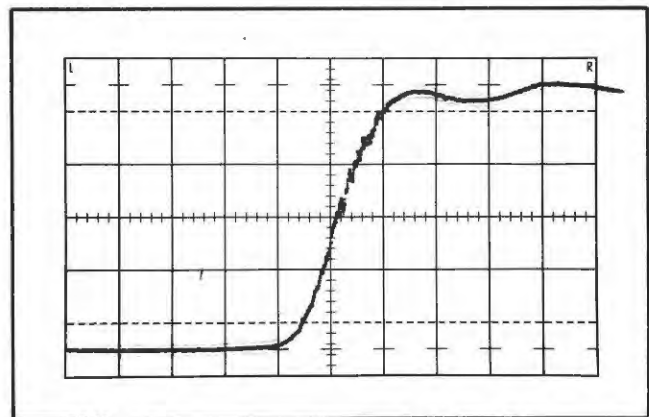

Fig. 5-2. Type 152 .25 V-50 ps internal pulse.
d. Obtain a 5 division display and center it vertically using the Type 152 Offset controls (see Fig. 5-2). The Type 152 position control may have to be turned slightly (no more than 1 turn) to locate the rise of the display.